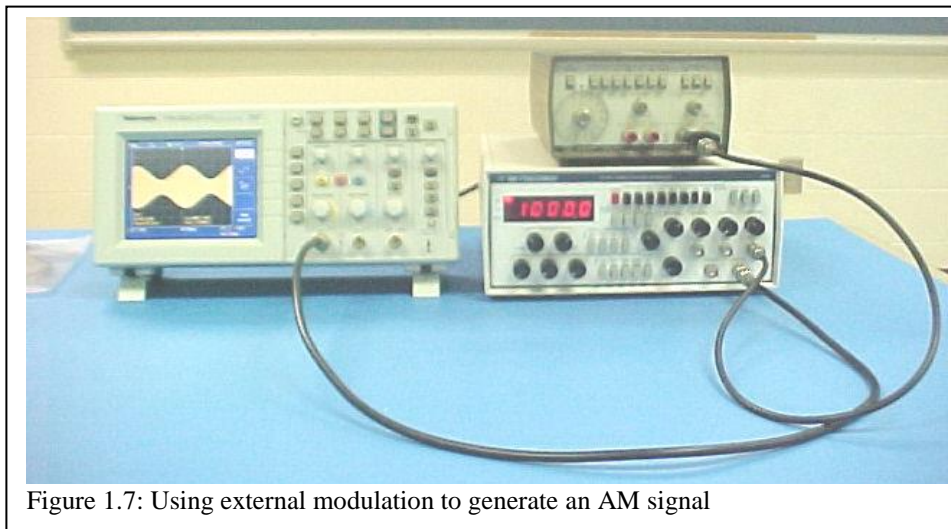

Figure 1.7: Using external modulation to generate an AM signal
- Now feed this signal into the VCG/Mod Input connection (near the bottom right of the front of the BK4040 generator). The 4040 should be connected to the scope. (See Figure 1.7).